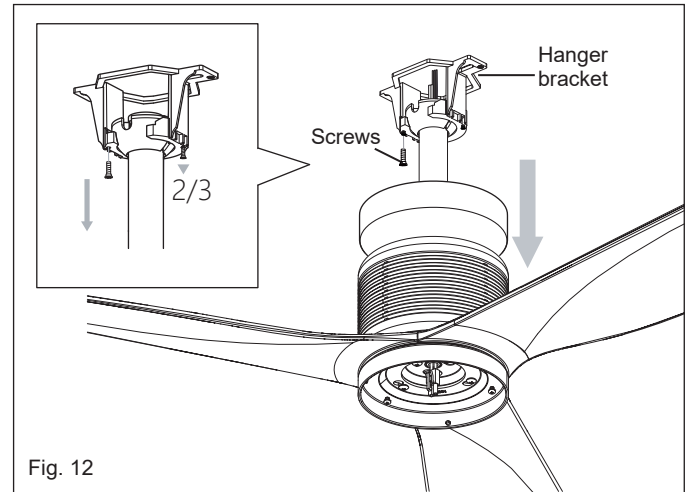

Fig. 12
- 2 Remove one screw on the bracket and loosen the other screw on the bracket. (Fig. 12)